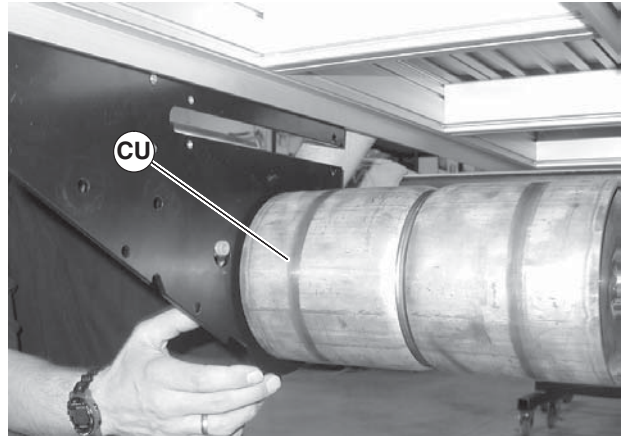

Figure 84
11. Slide drive pulley (Figure 84, item CU) out of attached side plate.